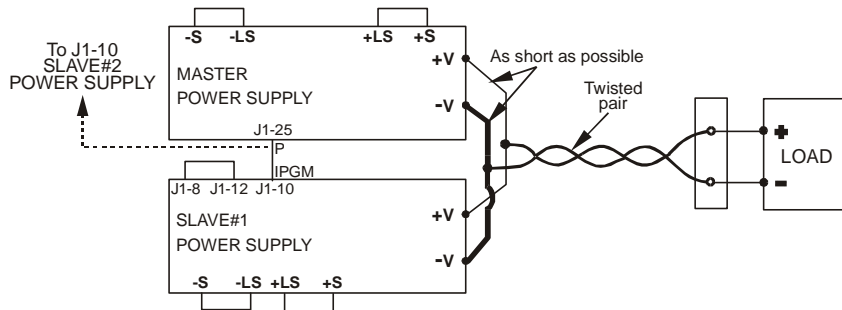
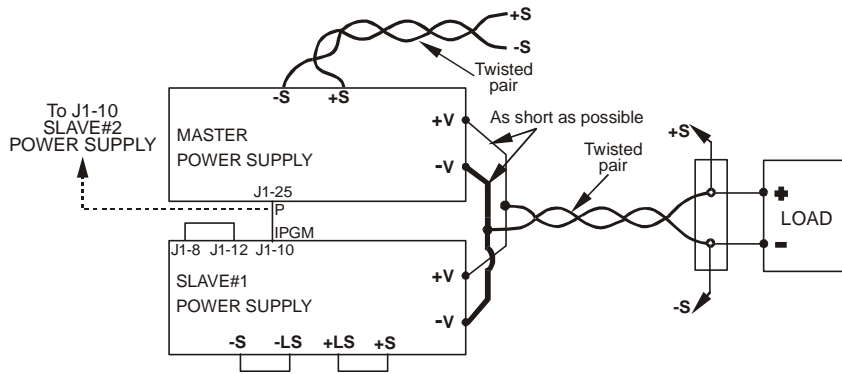

Fig.5-4: Parallel connection with local sensing
Fig.5-5: Parallel operation with Remote sensing
Set the Master unit Output Voltage to the desired voltage. Program the Output Current to the desired load current divided by the number of parallel units. During operation, the Master unit operates in CV mode, regulating the load voltage at the programmed Output Voltage. Connect the sensing circuit to local or remote sensing as shown in Fig.5-4 or fig.5-5.
In parallel operation, power supplies can be connected in local or remote sensing. Refer to Fig. 5-4 and 5-5 for typical connections of parallel power supplies. The figures show the connection of two units, however the same connection method applies for up to 4 units.
- Select Local or Remote sense - Ref. Figures 5-4 and 5-5